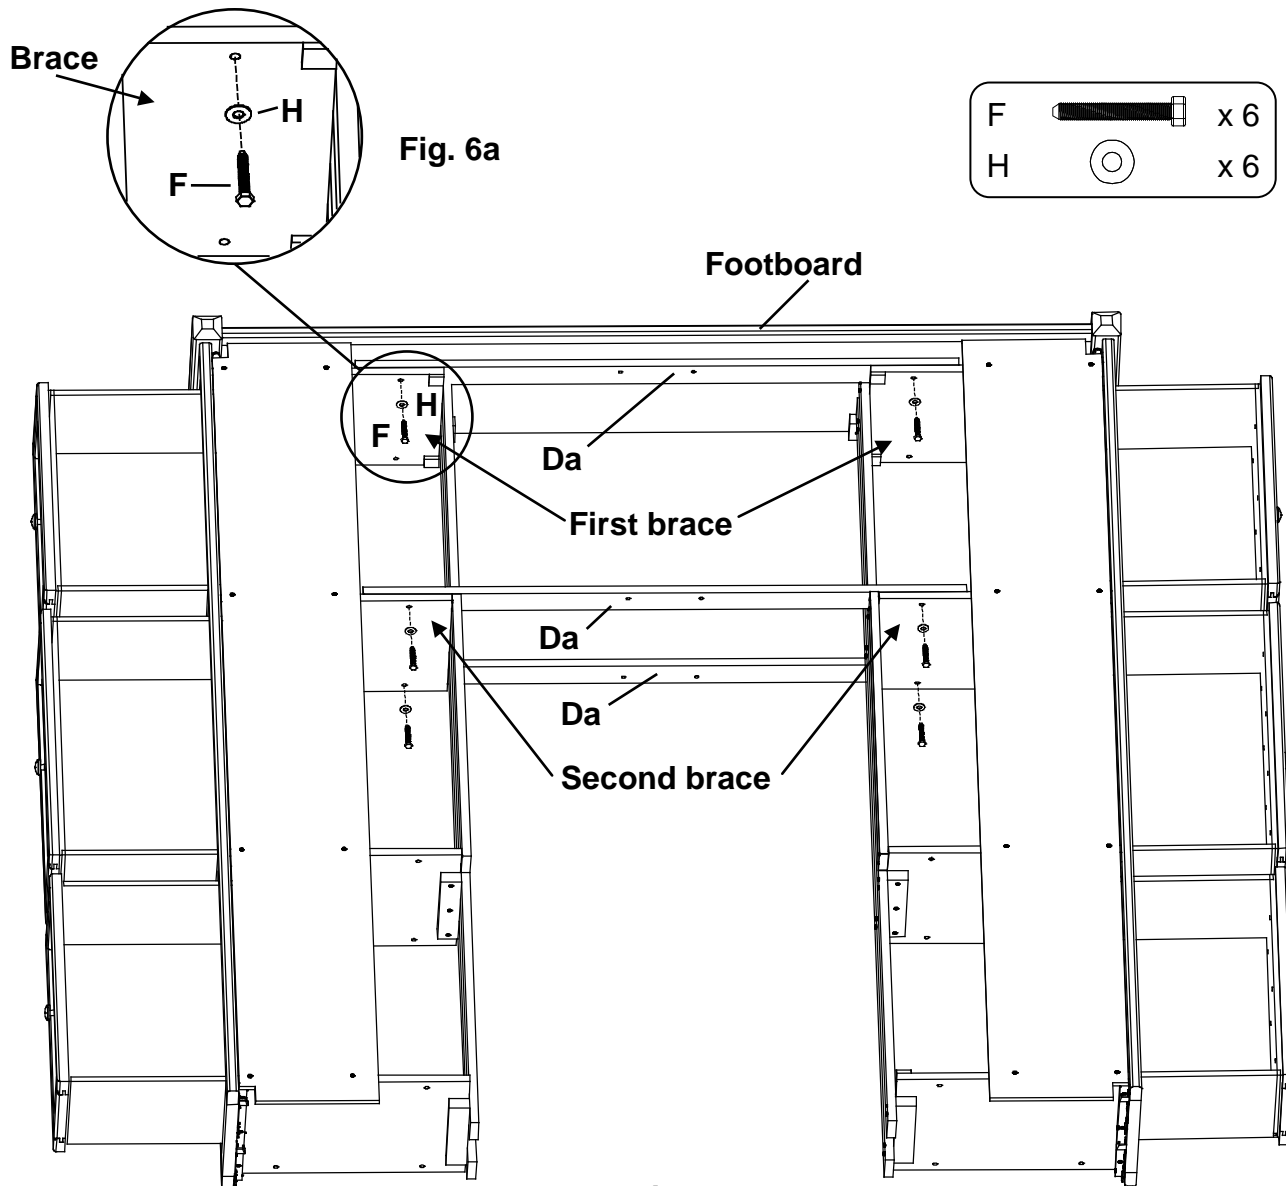

Fig. 6
Place a Trestle with T-Nuts (Da) on the outside surface of the second lower brace so that the T-Nuts (ZU) sit near the bottom. Line up the bottom edges of the trestle and braces so they are nearly flush. Insert two 1/4" x 1-3/4" Hex Bolts (F) and Washers (H) and tighten. See Figures 6 and 6a.